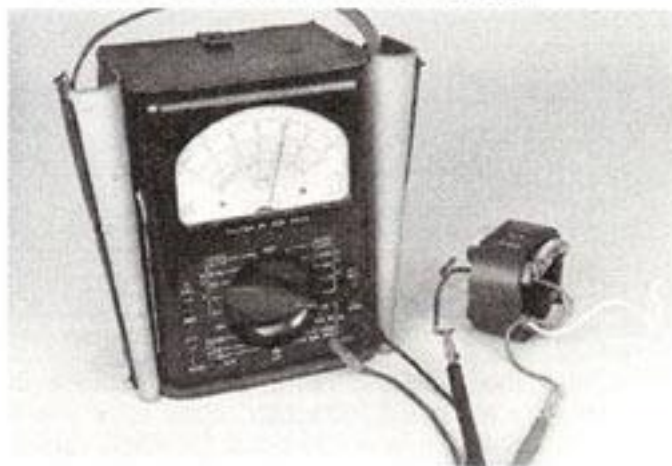

Fig. 36
- C. Test the stator with an ohmmeter (Fig. 36). Set the ohmmeter on the 1X scale and set it at "0." In upper coil, connect one of the ohmmeter leads to the red wire and the other lead to the black wire from the upper coil. If the ohmmeter shows a low resistance reading, the coil is good. Check the other coil the same way. If the needle on ohmmeter deflected to zero or if there was no deflection, the coil is bad and stator must be replaced.